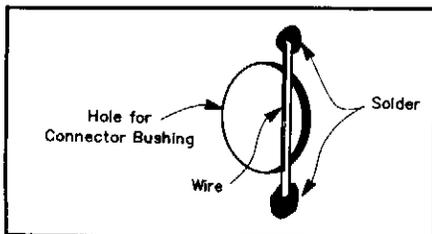

Fig 15—Solder a wire or piece of brass sheet across a round hole to make D holes for connectors with flatted bushings.
*Idea 3:* It's easy to mount connectors that need D-shaped holes, like some BNCs, to the solderable walls of circuit-board boxes. Just drill a round hole of the right diameter and solder a wire across it to form the D (Fig 15).—Zachary Lau, KH6CP, ARRL Lab Enginner